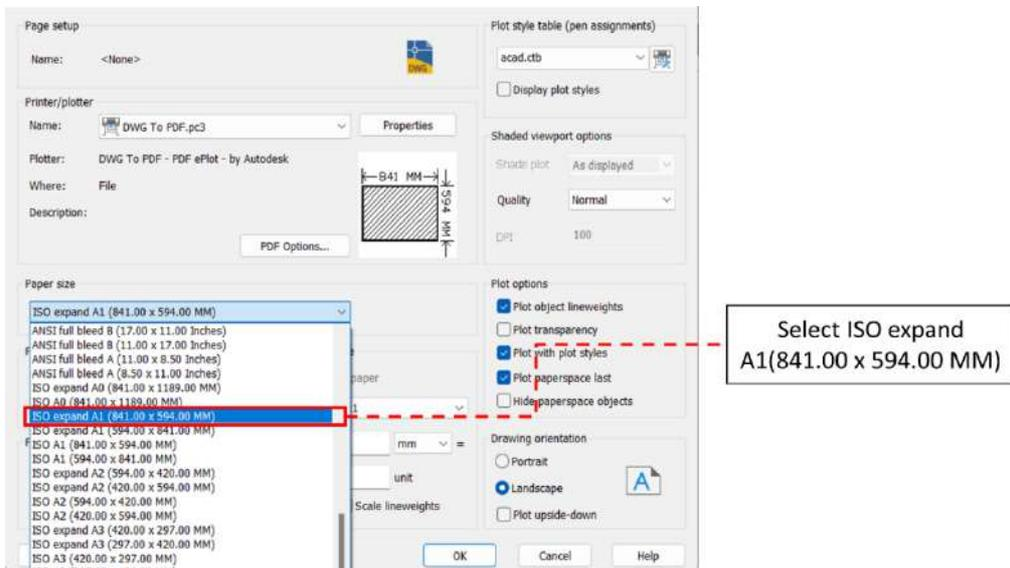
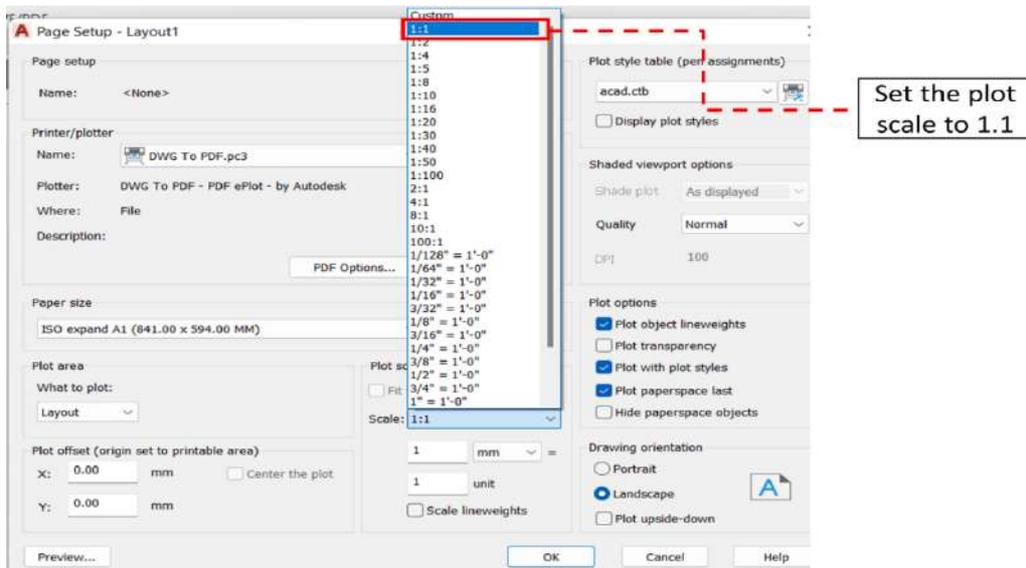

Fig. 5.9: Select ISO expand A1(841.00 x 594.00 MM)
Fig. 5.10: Select plot scale to 1.1
Step 6: In the "Paper size" section, select "ISO A1 (841.00 x 594.00 MM)" and set the "Plot scale" to 1:1 (refer to Fig. 5.9 and Fig. 5.10).